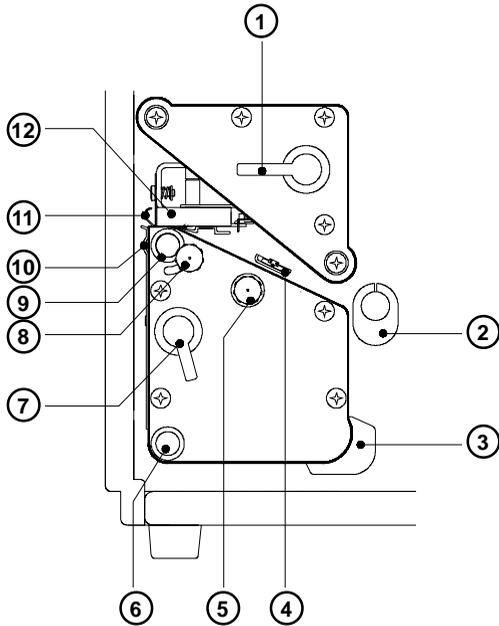

Figure 4d Detailed view of the print mechanism
- 6 - Print mechanism (for details see Fig. 4d)
- 7 - Print mechanism (for details see Fig. 4d)